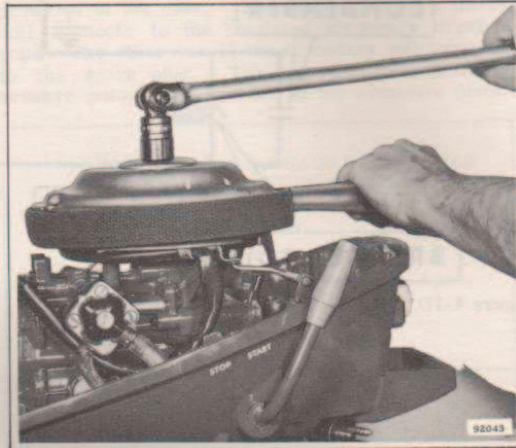
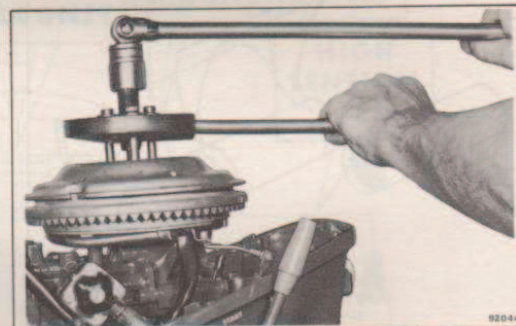

Figure 4-4. Removing Flywheel Nut
Figure 4-5. Pulling Flywheel
b. Unscrew flywheel nut. (See Figure 4-4). Use an appropriate flywheel holding tool when removing flywheel nut. Using flywheel puller (Special Tool #378103), pull flywheel from crankshaft. See Figure 4-5.